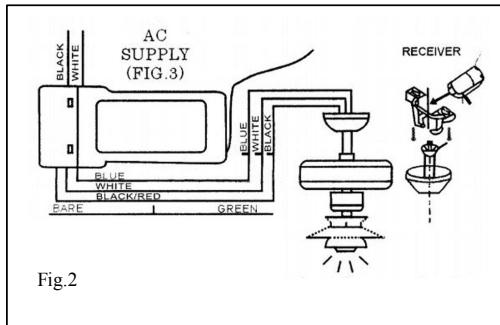

Fig.2
Step 2. Motor to Receiver Electrical Connections: Connect the WHITE wire from the fan to the WHITE wire marked "TO MOTOR N" from the Receiver. Connect the BLACK wire from the fan to the BLACK wire marked "TO MOTOR L" from the Receiver. Connect the BLUE wire from the fan to the BLUE wire marked "For Light" from the Receiver. (Fig. 2)
Step 3. Receiver to House Supply Wires Electrical Connections: Connect the WHITE wire (Neutral) from the outlet box to the WHITE wire marked "AC in N" from the receiver. Connect the BLACK wire (Hot) from the outlet box to the BLACK wire marked "AC in L" from the receiver. Secure all wire connections with the plastic wire nuts provided. (Fig. 2)